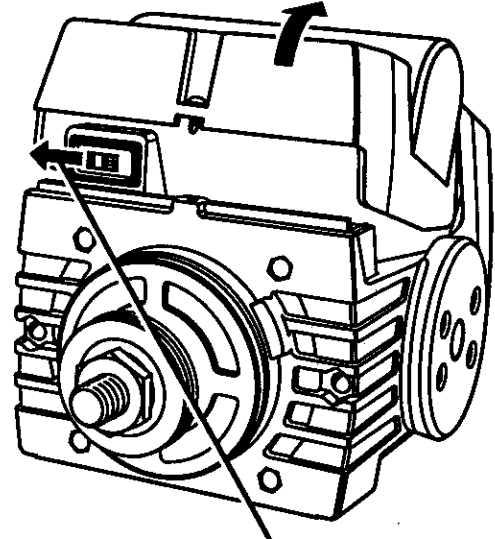

Fig. 3
- Use a small screwdriver to slide the dual voltage switch to the 240V position. See *Figures 3 and 4*.